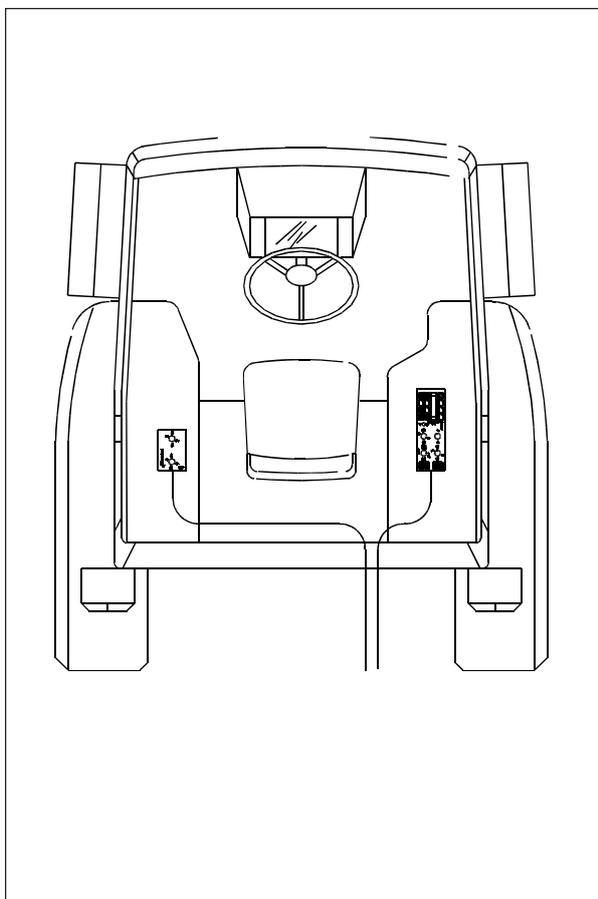

Fig. 27-5
2. Place the control panel in a proper position on the driver's right hand side (Fig. 27-5). If the machine is fitted with an extra control panel, place this on the left hand side.